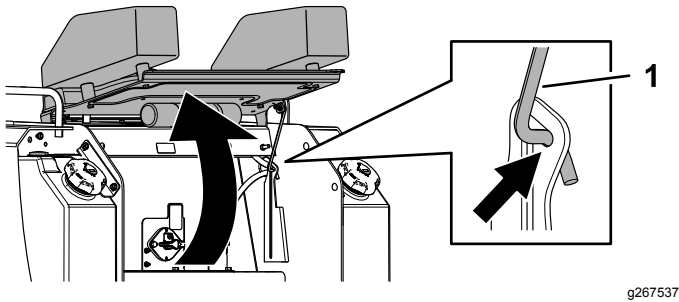

Figure 39
2. Lift the rear-access cover up and secure the prop rod to access the internal components (Figure 39).